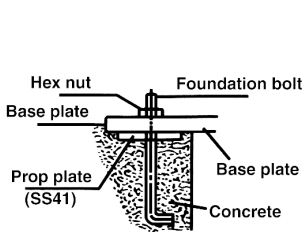

Fig. 4
- (b) A massive concrete foundation is preferred in order to minimize vibration. Rigidity and stability are enhanced by prop plate and foundation bolt. As shown in figure 4.